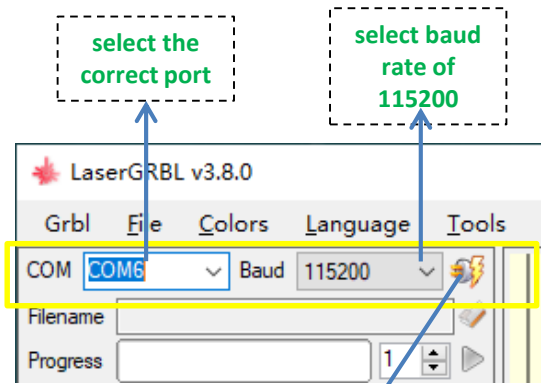

Figure 6.4
6.4 Select the correct port number and baud rate in the software - 115200, figure 6.4 (in general, the COM needn't be chosen manually, but if you have multiple serial devices, you'll need to select them manually when connecting to the computer. The port of the laser engraving machine can be found in the Device Manager on Windows. An easier way is to try each port number displayed).